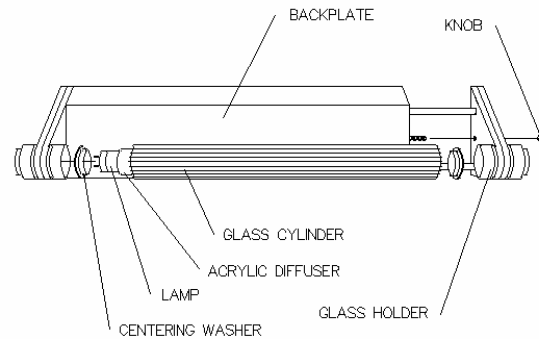

FIG. 2
4. Slide glass holder away from backplate by unscrewing knob. (Figure 2)